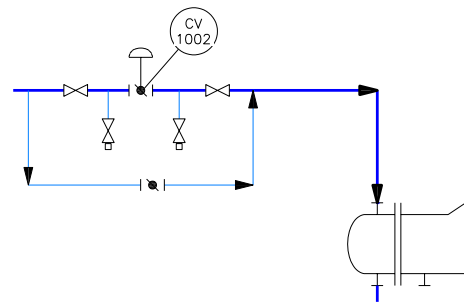

Figure 2-60 Gate valves placed on the secondary lines
14. Next, delete the arrows on the secondary lines and place gate valves, as shown in Figure 2-60.